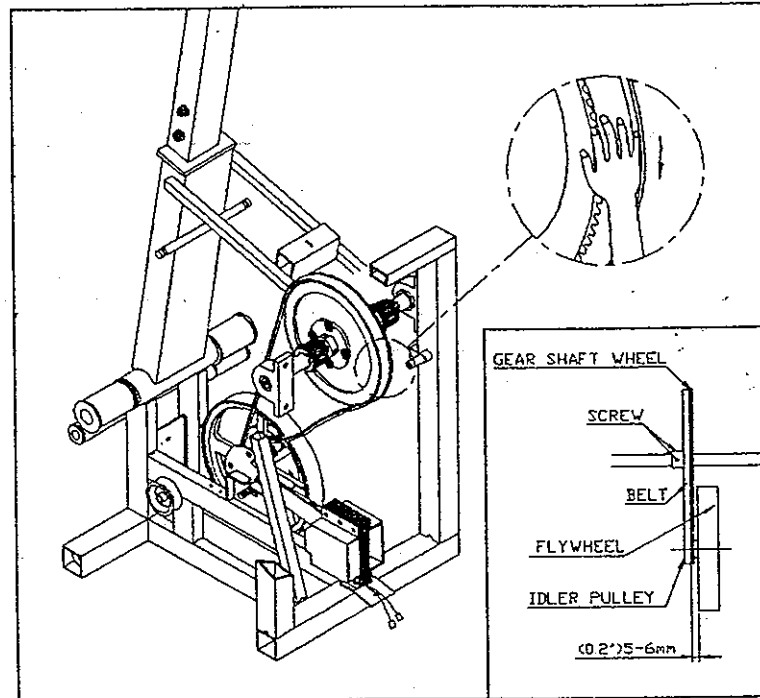

Fig 19-1.
- 6-1. Make sure the gear shaft wheel with idler pulley aligned. And the correct gap between the idler pulley and flywheel should be 5-6 mm (see Fig. 19-1).